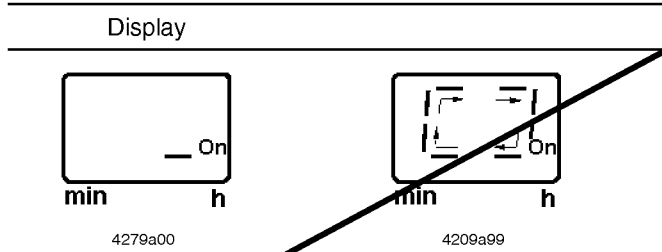

Fig. 13-1 Starting operating mode
- **Precondition:** When voltage is applied, the right segment is lit. (fig. 13-1).